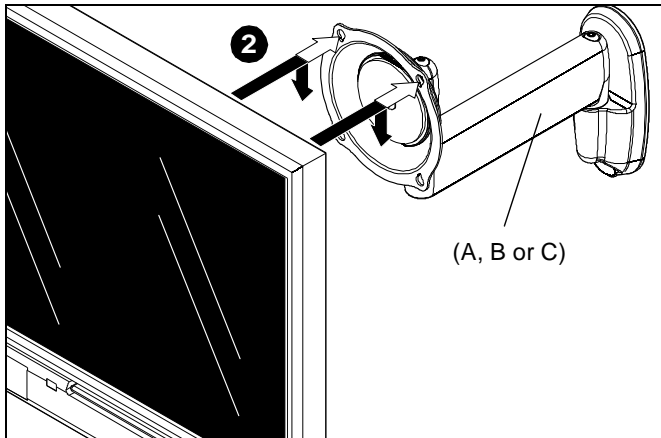

Figure 5
2. Align two screws in display back with upper teardrop mounting holes in mounting plate and lower display until screws are seated in lower area of teardrop mounting holes. (See Figure 5)